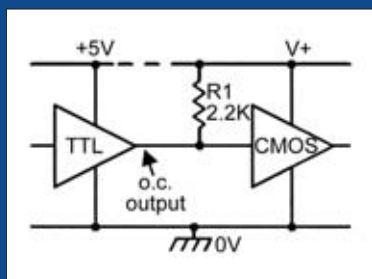
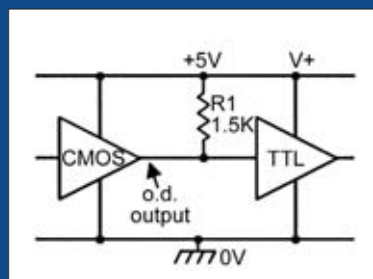

FIGURE 27. TTL (open collector output) to CMOS interface, using common or independent +ve rails.
FIGURE 28. CMOS (open drain output) to TTL interface.
Most TTL ICs with open-collector (OC) outputs have output-voltage ratings of at least 15V (but the main IC has a normal 5V rating), and can be interfaced to the input of a CMOS logic IC by using the connections shown in Figure 27. Here, R1 acts like a pull-up resistor, and the CMOS IC can either share the 5V supply of the TTL IC, or can use its own 5V to 15V positive supply rail. Similarly, a CMOS IC with an open-drain (OD) output can be interfaced to a normal TTL input by using the connections shown in Figure 28 but, in this case, the two ICs must share a common 5V supply rail.